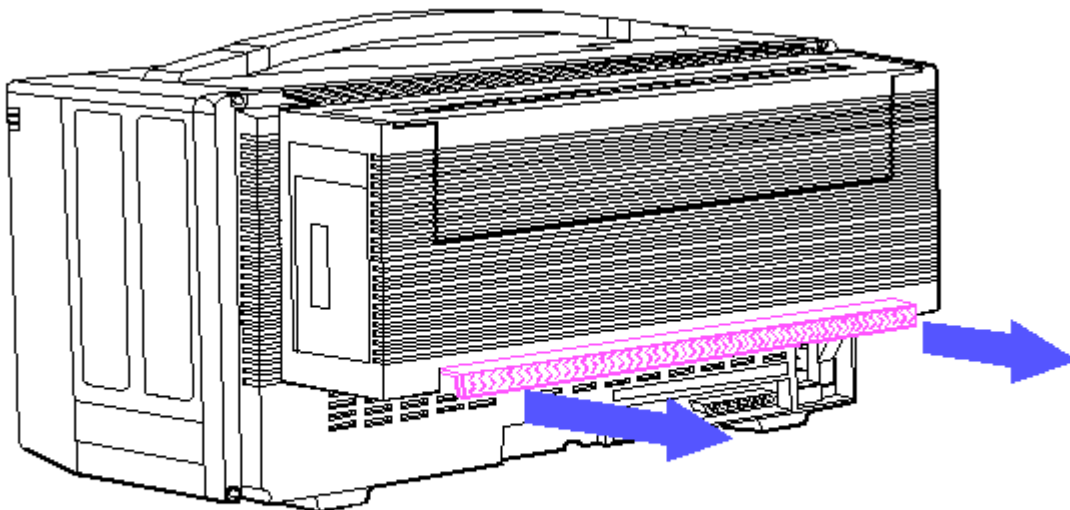

Figure 8-101. Pulling the Locking Bar on the Expansion Unit
4. Pull out on the locking bar that secures the expansion unit to the computer chassis (Figure 8-101).